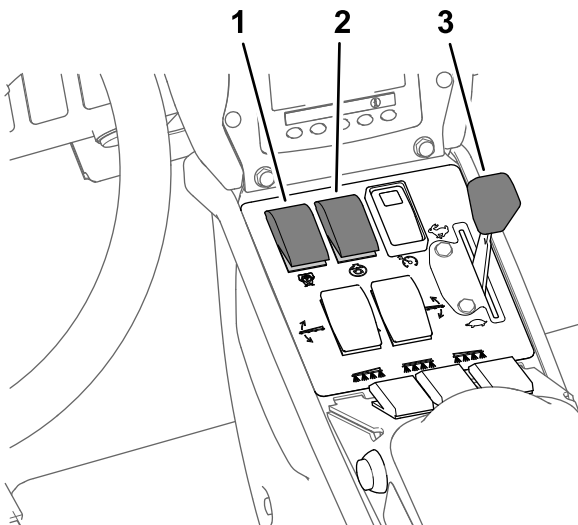

Figure 30
8. Set the agitation switch and the spray-pump switch to the ON position (Figure 30).
9. Set the throttle to the FAST position (Figure 30).
Note: This procedure assumes that the spray pump is on; refer to Figure 30 in *Spraying in the Application Rate Mode* (page 32).
4. Adjust the throttle to the desired engine speed to spray; refer to Figure 30 in *Spraying in the Application Rate Mode* (page 32).